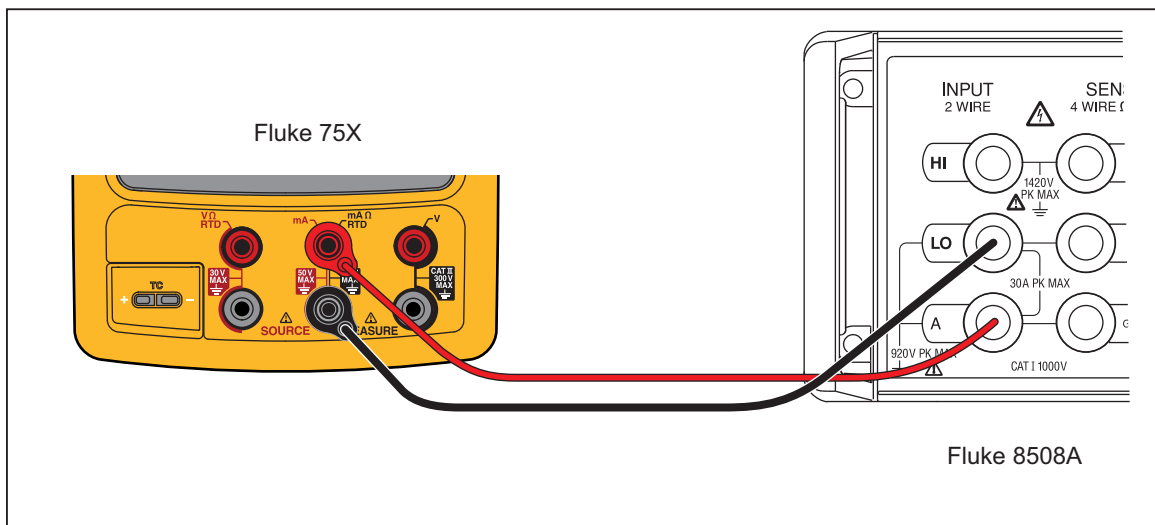

Figure 6. DC Current Source Verification Connections
1. Connect the UUT to the 8508A as shown in Figure 6.